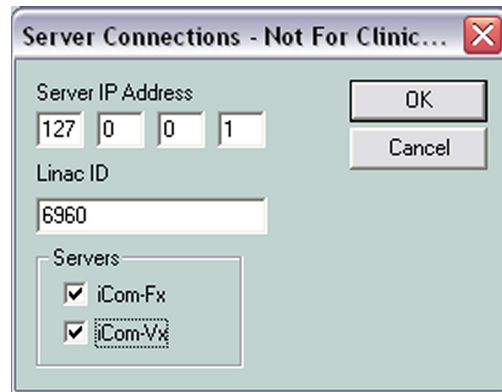

Figure 3.4 Server Connections dialog box
- 2 In the **Server Connections** dialog box, type the **Server IP Address** and the **Linac ID** of the digital accelerator in the applicable boxes (see Figure 3.4).